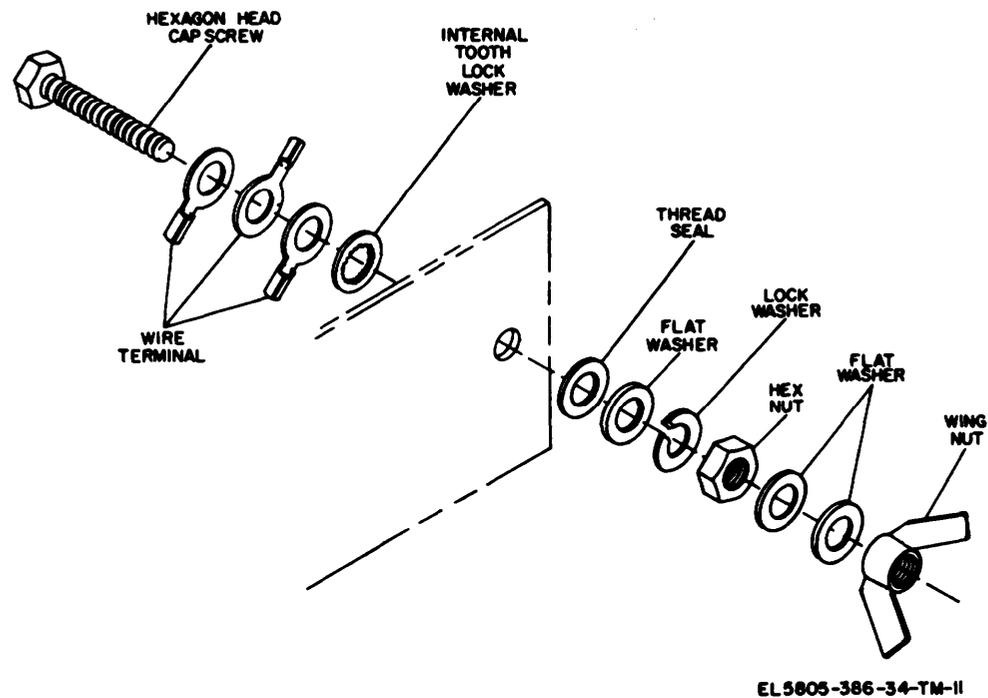

Figure 2-12. Ground lug replacement.
(1) Set li-rings, shoulder washer and binding post into rear panel.
(2) Slide washer and terminal lug over binding post stud and secure with nut.
(3) Reinstall main chassis (para 2-9d).
*d. Removing GND Lug E15 Rear Panel (fig. 2-12).*
(1) Remove main chassis from the case (para 2-9 *c*).
(2) Remove wing nut and two flat washers from ground lug.
(3) Remove hex nut, lock washer, flat washer, and thread seal from ground lug.
(4) Slide ground lug out of panel (from inside of chassis) and remove lock washer and two wire terminals.